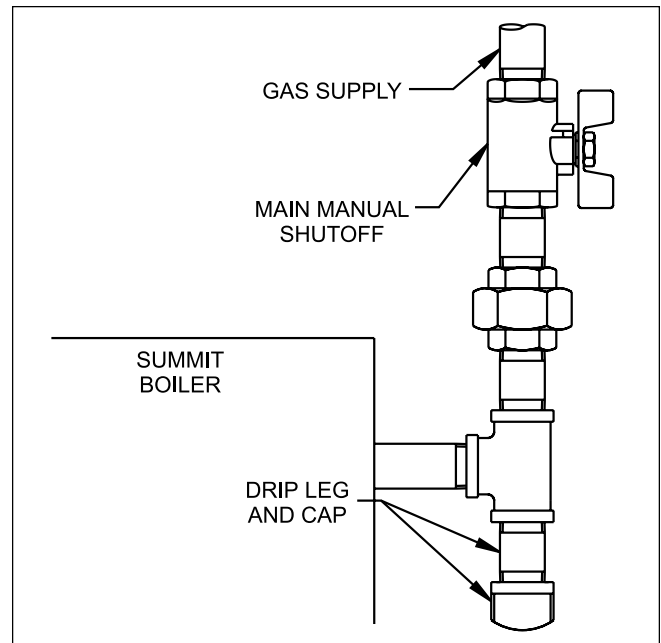

Figure 6. Gas Supply Piping.
5. Install drip leg and ground joint union (Figure 6).